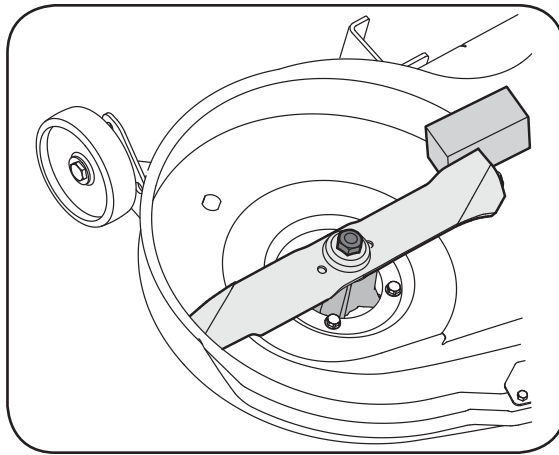

Figure 6-8
2. Place a block of wood between the center deck housing baffle and the cutting blade to act as a stabilizer. See Figure 6-8.
3. Use a 15/16" wrench to remove the hex flange nut that secures the blade to the spindle assembly. See Figure 6-8.